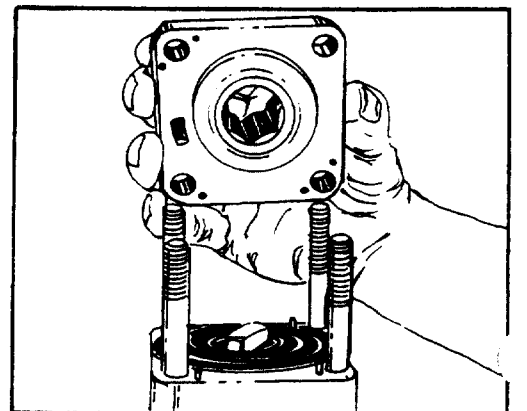

FIGURE 17.
- 19. Remove the isolation manifold (15), (four plates bonded together). See figure 17.